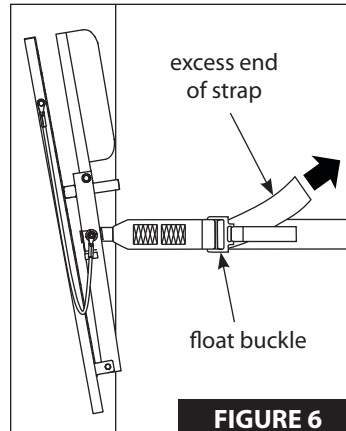

FIGURE 6
c. Pull on excess end of strap firmly - snugging up stand to tree. **SEE FIGURE 6.**